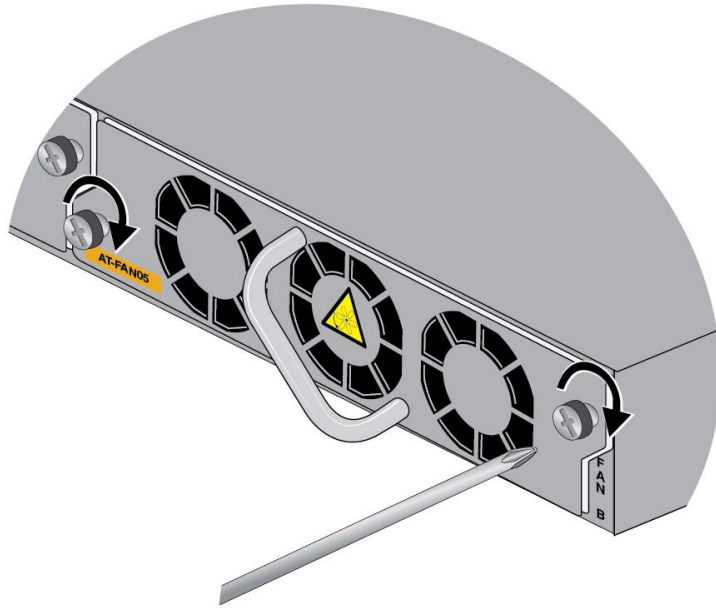

Figure 146. Tightening the Two Captive Screws on the Fan Module
4. Tighten the two screws on the module to secure it to the switch. Refer to Figure 146.